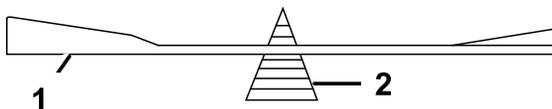

Figure 66
- Check the balance of the blade by putting it on a blade balancer (Figure 66).